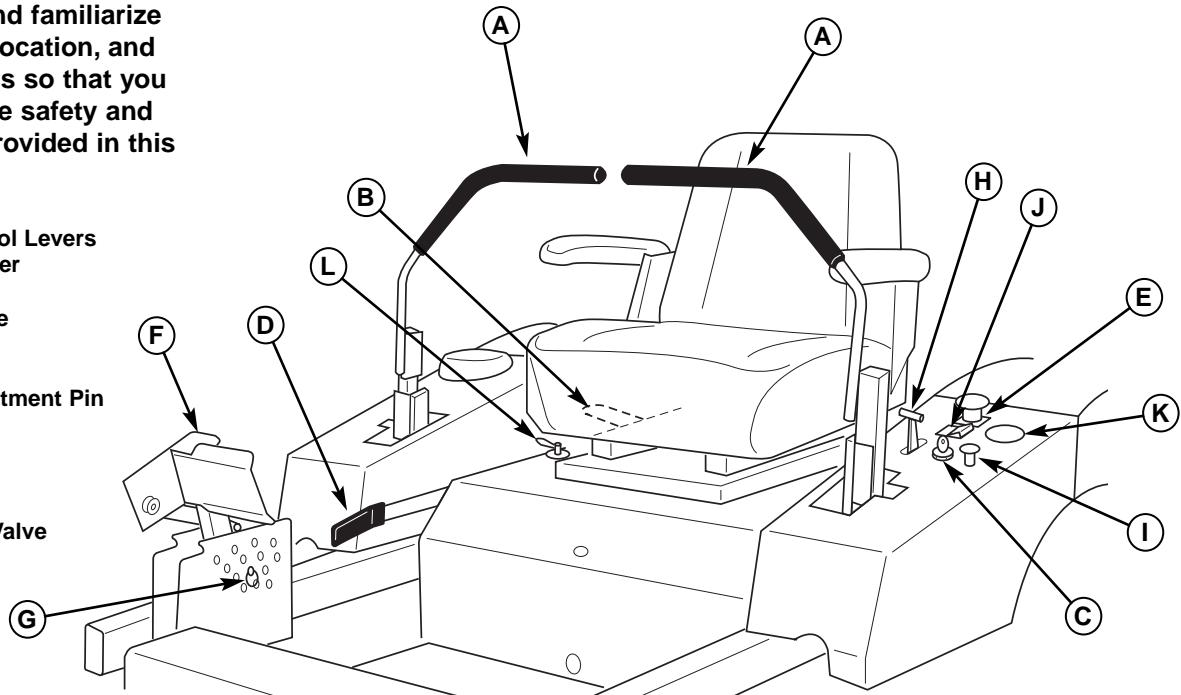

Figure 1. Control Locations
Set the engine throttle control (H, Figure 1) to FAST throttle position. Then fully close the choke (I, Figure 1) by pulling the knob OUT fully.
3. Insert the key into the ignition switch (C, Figure 1) and turn it to START.
1. Returning the ground speed control levers (A, Figure 1) to the middle position will stop tractor movement. Pivot the levers outward and lock them in NEUTRAL.
2. Disengage the PTO by pushing down on the PTO switch (E, Figure 1).
3. Engage the parking brake by pulling the handle (D, Figure 1) up until it locks into position.
4. Move the throttle control (H, Figure 1) to mid-throttle position and turn the ignition key to OFF Remove the key.